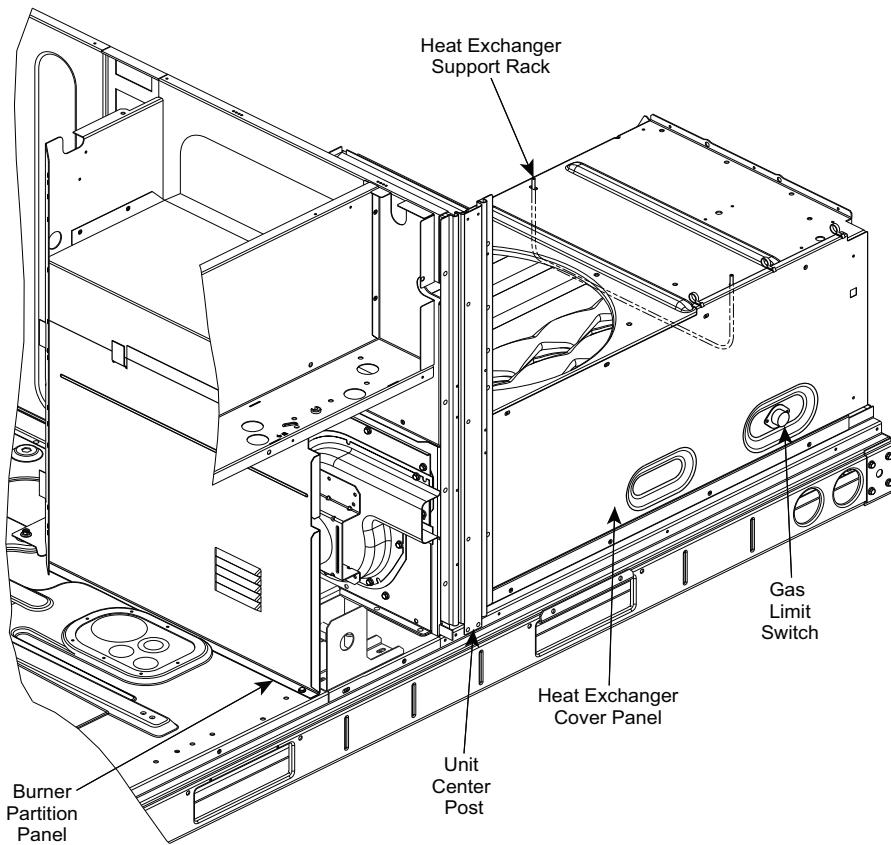

Fig. 52 — Heat Exchanger Access - Internal Panels, Center Post and HX Rack Locations
1. Remove the screw at the base of the burner partition panel and slide out the panel (see Fig. 52).
5. Remove the screw at the base of the burner partition panel and slide out the panel (see Fig. 52).
3. Remove the unit center post (see Fig. 52).